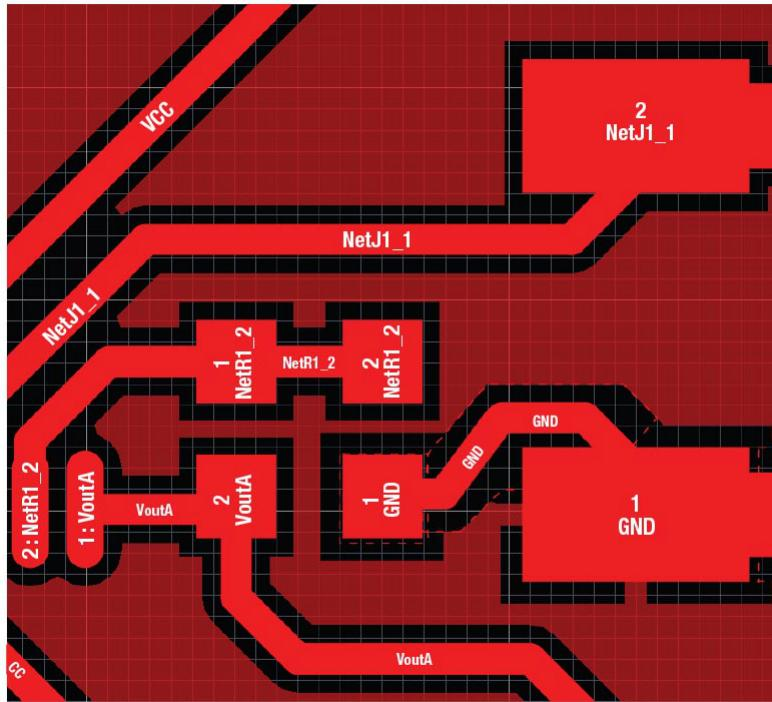

Figure 7. Kelvin connection detail
- Sense resistors are now close to the other components and use well-implemented Kelvin connections, as shown in Figure 7.